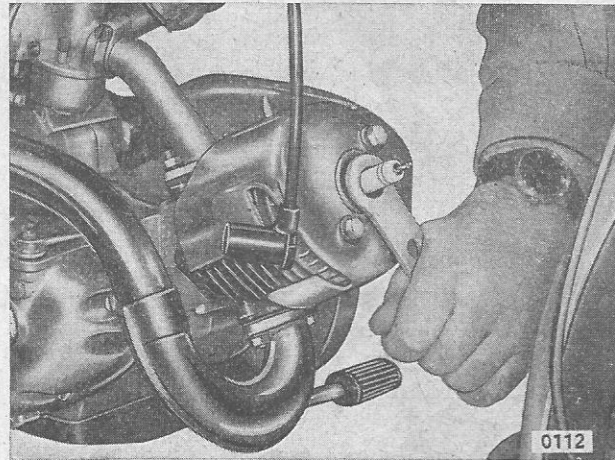

Fig. 12: Removing the spark plug
1. Unscrew spark plug (fig. 12), and crankcase venting screw, shut the fuel feed tap and step on the kickstarter pedal repeatedly.
| 5. the spark plug is defective, | replace the spark plug (Fig. 12). |